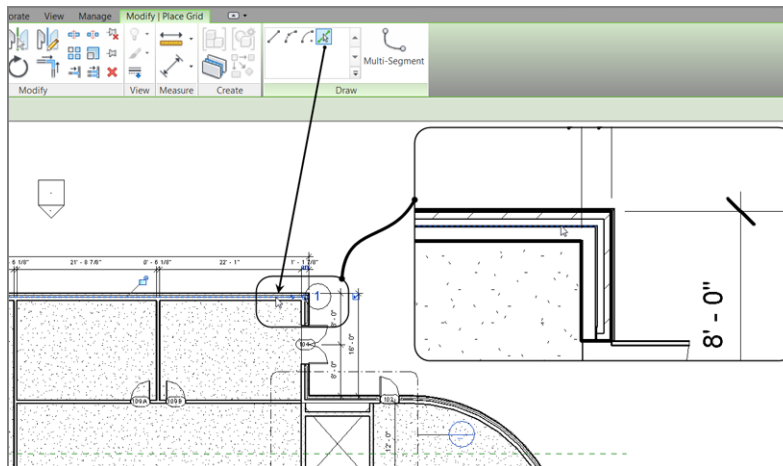

FIGURE 8.2: Your first column grid
4. On the Draw panel of the Modify | Place Grid tab, click the Pick Lines icon, as shown in Figure 8.2.
5. Pick the centerline of the north wall (see Figure 8.2).